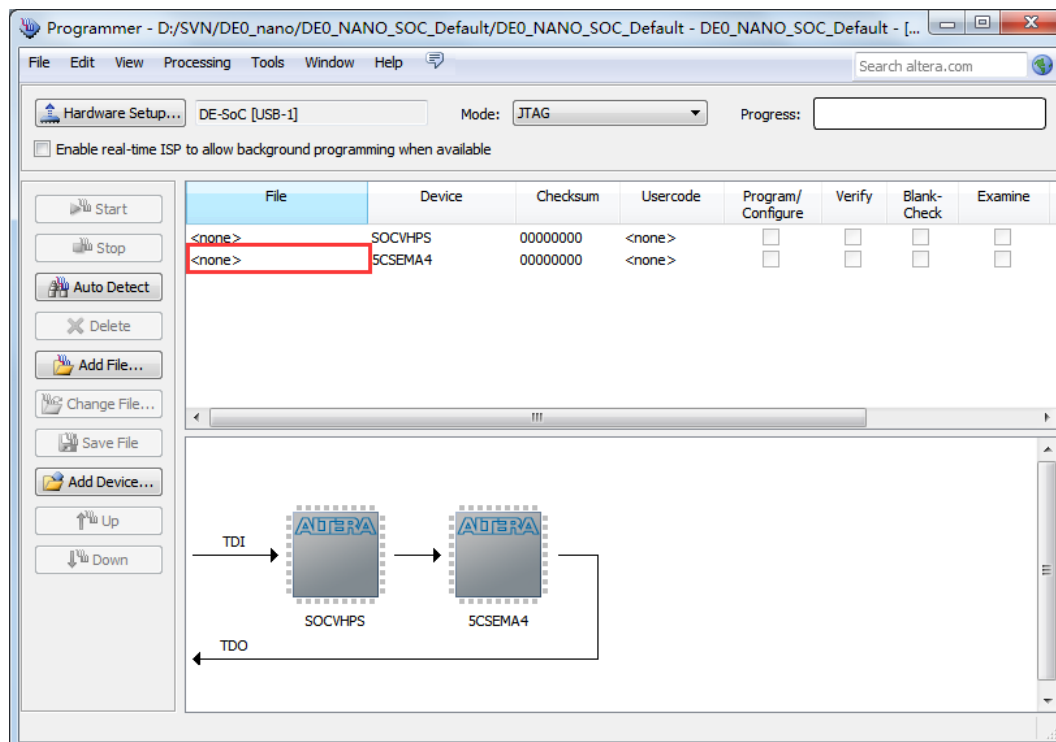

Figure 8-7 Two devices are detected in the Quartus II Programmer
3. Click **Auto Detect** and then select the correct device(SCSEMA4). Both FPGA device and HPS should be detected, as shown in **Figure 8-7**.
4. Double click the red rectangle region shown in **Figure 8-7** and the **Select New Programming File** page will appear. Select the .jic file to be programmed.
3. Click **Auto Detect**, and then select correct device, both FPGA device and HPS will be detected. (See **Figure 8-7**)
4. Double click the red rectangle region shown in **Figure 8-7**, and the **Select New Programming File** page will appear. Select the correct .jic file.